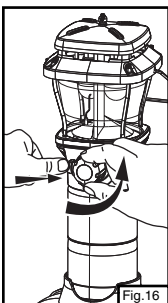

Fig. 16
- Open burner valve and repeatedly push igniter button and ignite the mantles. (Fig. 16)